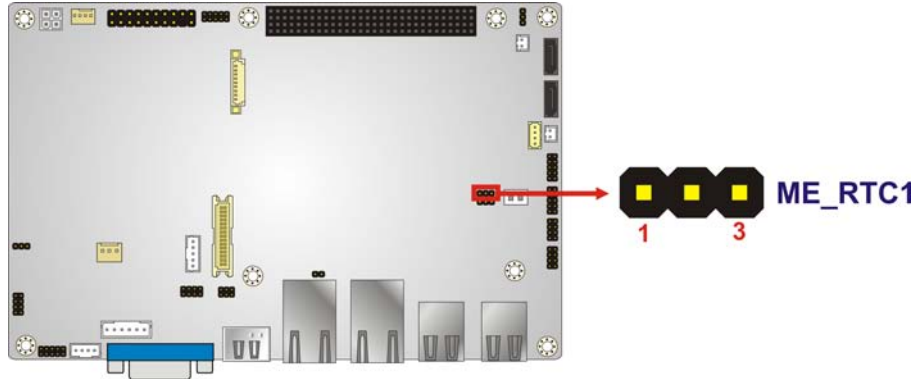

Figure 4-12: ME RTC Register Jumper Location
- Jumper Location: See **Figure 4-12**